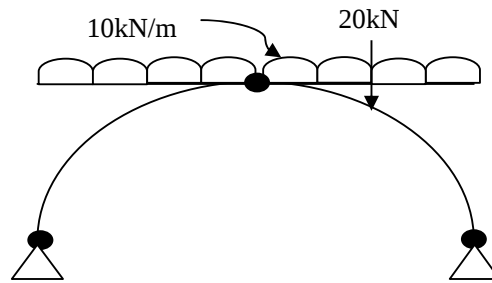

Fig.2
- Q.4 (a)** For the three hinged parabolic arch of 20m span and central rise of 3m is loaded with udl and a point load of 20kN at a distance of 5m from right end support as shown in fig.2 calculate Support reactions and Horizontal thrust. **07**